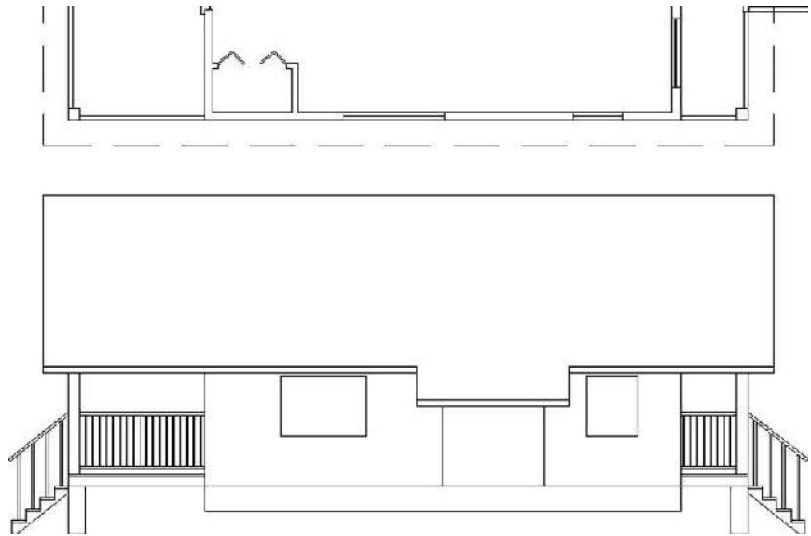

FIGURE 10.39: The cabin drawing rotated 180 and zoomed in
12. Zoom in to the lower edge of the floor plan and the mirrored elevation (see Figure 10.39). Now you can work on the rear elevation.